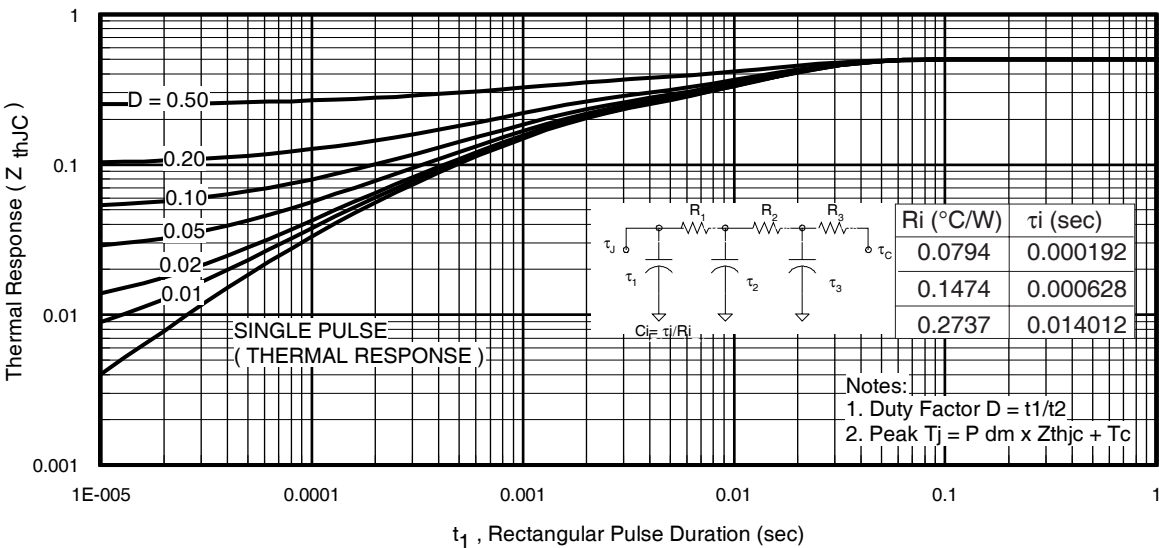

Fig 11. Maximum Effective Transient Thermal Impedance, Junction-to-Case
- ① Repetitive rating; pulse width limited by max. junction temperature. (See fig. 11).
- ② Limited by T_{Jmax} ; starting $T_J = 25^\circ\text{C}$, $L = 0.043mH$, $R_G = 25\Omega$, $I_{AS} = 140A$, $V_{GS} = 10V$.
$Z_{thJC}(D, t_{av})$ = Transient thermal resistance, see figure 11)